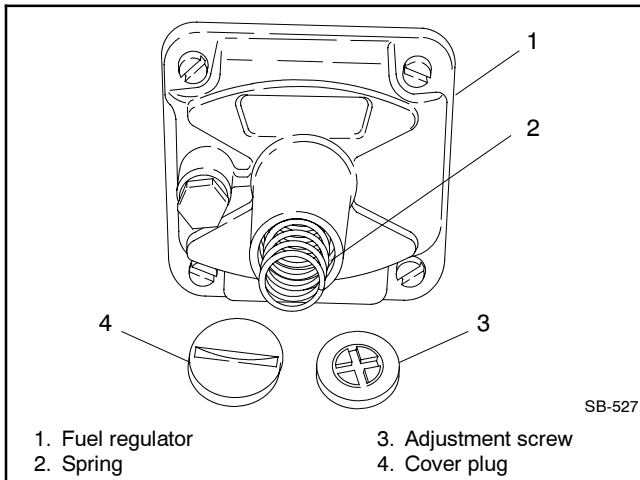

Figure 9-24 Fuel Regulator Components
- a. Remove the fuel regulator cover plug. See Figure 9-24.